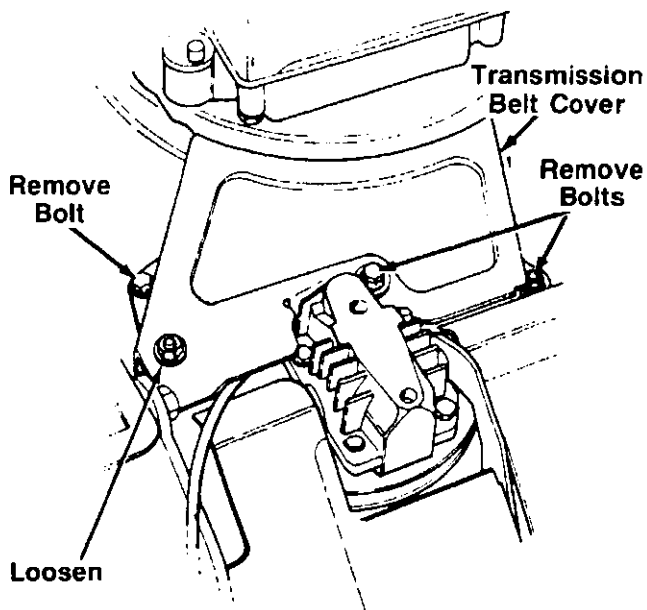

FIGURE 22.
4. Remove the transmission belt cover by removing three bolts. Loosen the transmission belt guard. See figure 22.